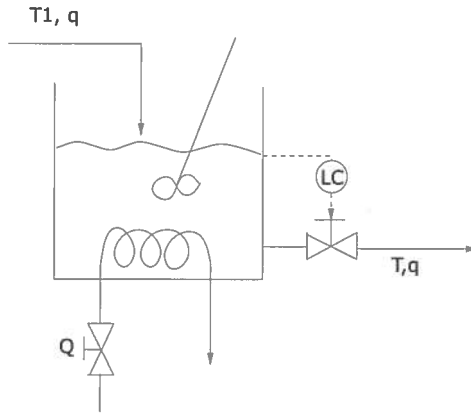

Figure 2: Heated tank
2. (18 points) Consider a heated tank with perfectly controlled level as the one in Figure 2. Assume: constant density (ρ), constant heat capacity (C_p), constant volume (V), perfect mixing.